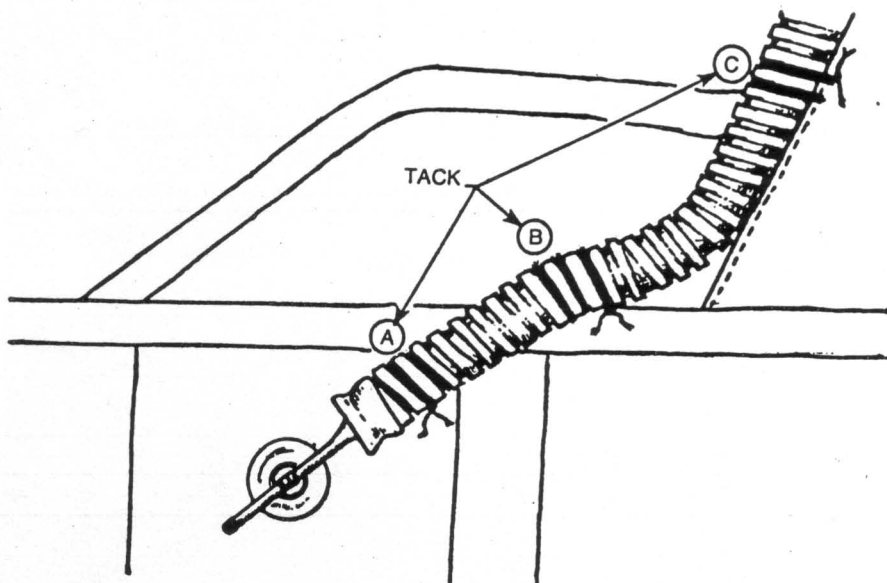

FIGURE 2
To insure constant pull force regardless of the position of the rig, the modified attachment method (Fig. 2) should be installed on all SST's. To accomplish this:
1. Remove the tacking at the container end of the of the housing and remove the housing from its channel (1) on the support piece (2) and remove the channel by cutting the stitches.
2. Position the housing as illustrated on Fig. 2. When the housing is straight across the top of the container the end should line up with the center line of the container.